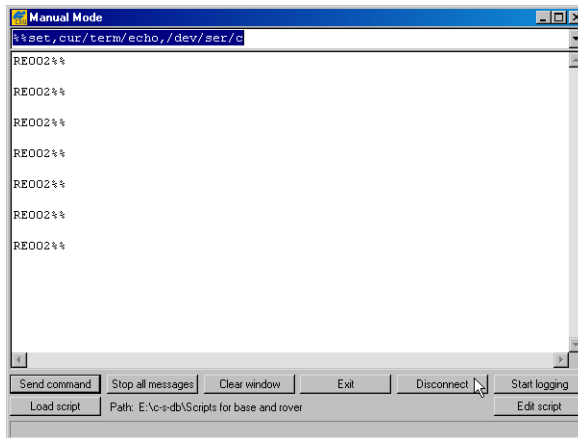

Figure 2-23. Manual Mode – Command Responses
The Manual Mode screen will show RE002%% in response to each of these commands. When finished, you should see a window that looks like Figure 2-23.
- Click **Disconnect** (Figure 2-23).